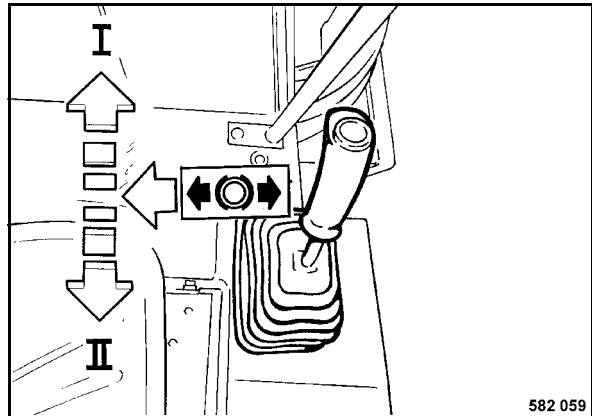

Fig. 37
- Push the travel lever (Fig. 37) to the left out of braking position and move it slowly to the desired travel direction.